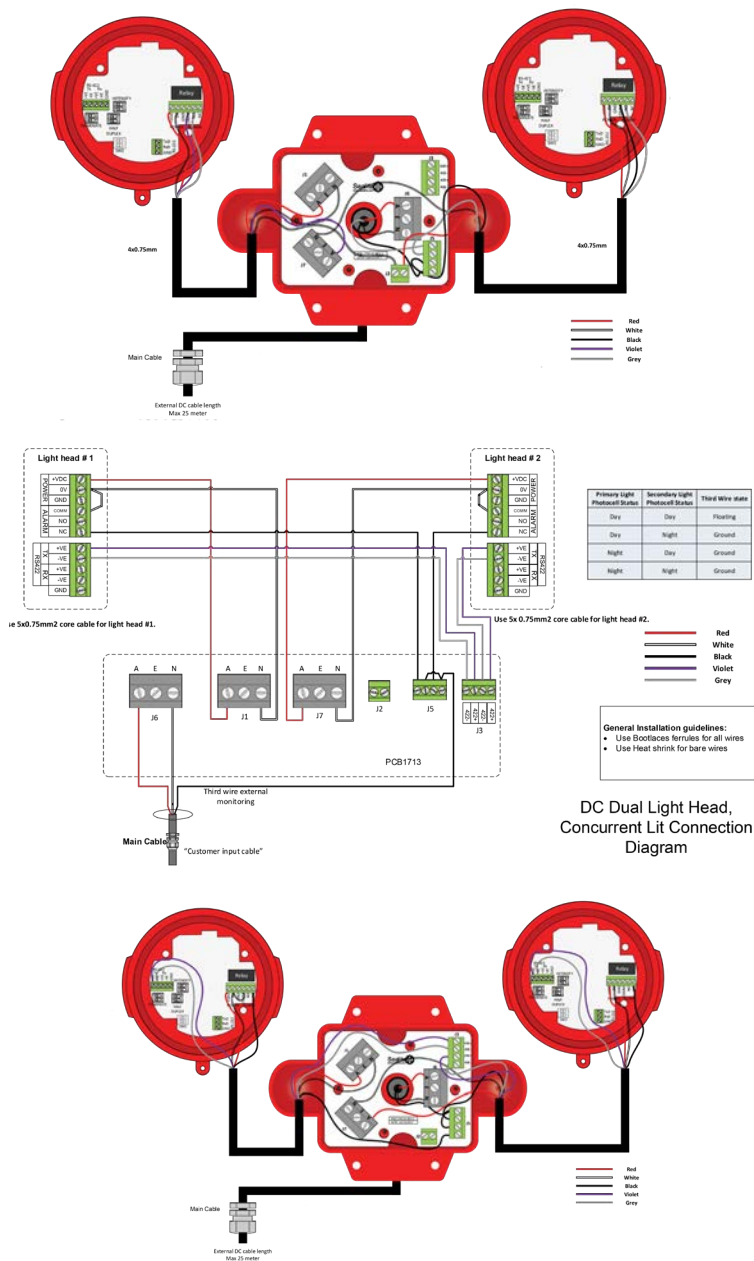

Figure 2. DC Wiring Diagram
1. Open the top lid by removing a locking pin and nut from one side of the lid. Wire up the light and connect power to the terminal block. Please refer to Figure 2.